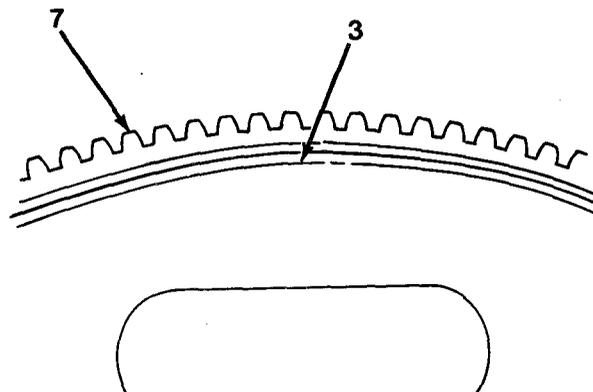

Figure 6-9
1. Heat ring gear (7, Figure 6-9) for 20 minutes in oven preheated to 260 degrees F (127 degrees C).